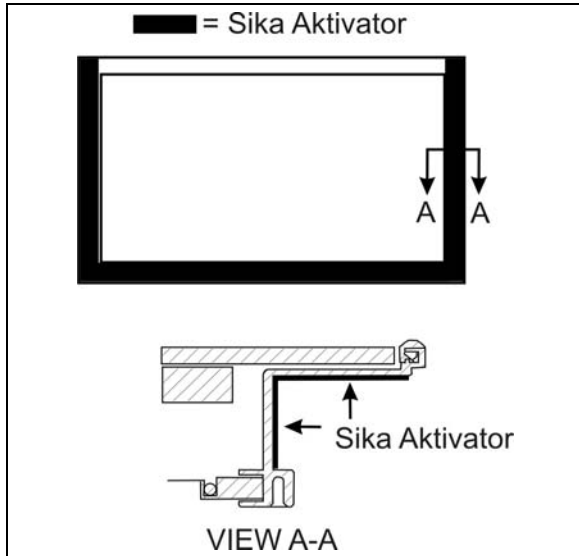

FIGURE 76 : SLIDING WINDOW - SIKA AKTIVATOR
2. Clean sliding window frame with anti-silicone and then apply Sika Aktivator as per FIGURE 76;